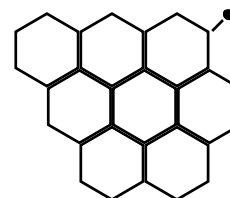

Fig. 5 The bottom layer.
5. Construct the bottom layer starting out with another hexagon made as in step 1. Add sulfide and zinc ions until you have a structure which looks like Fig. 5. The filled in circle at the top right is a zinc ion.